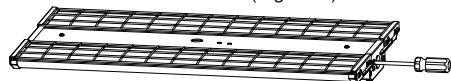

Figure 8
Step1. Mount the wire guard on the fixture with screws (Figure 8)